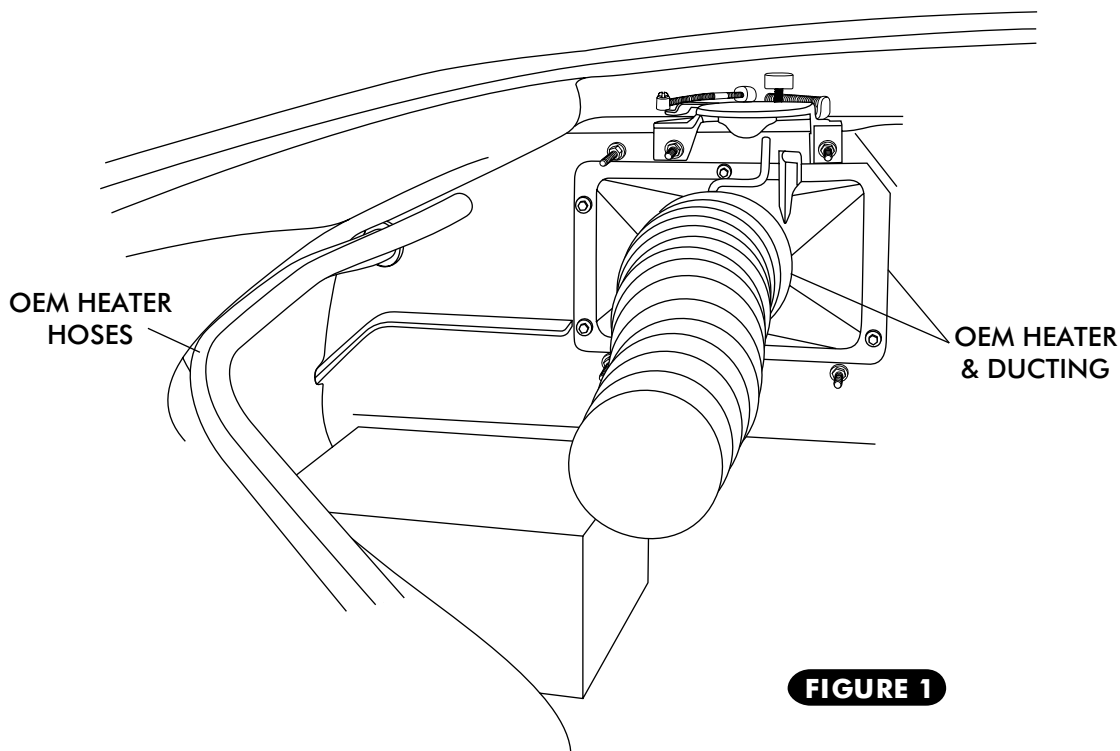

FIGURE 1
- ☐ OEM HEATER HOSES (DISCARD). SEE FIGURE 1.